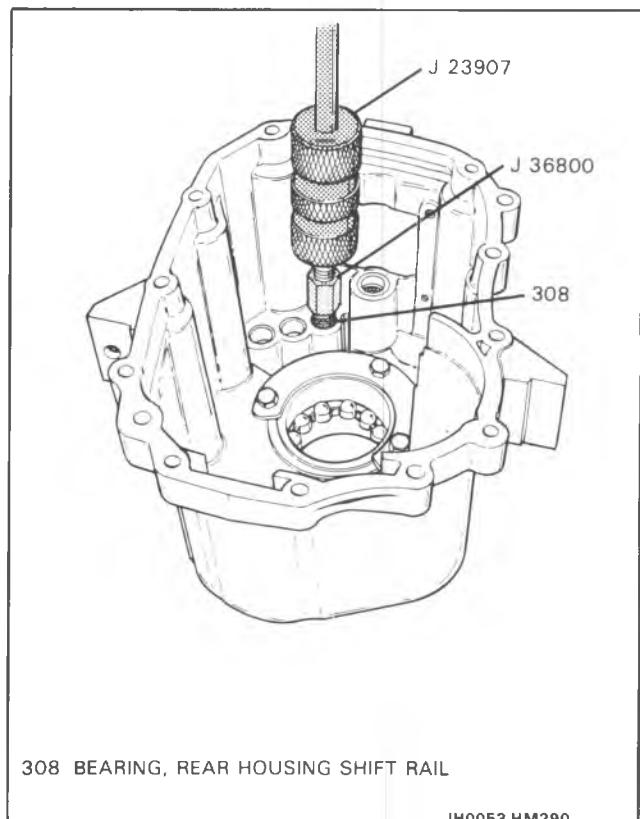

Figure 65 Removing Shift Rail Bearing
1. Rear housing shift rail bearings (308) (three), using J 36800 and J 23907 (Figure 65).